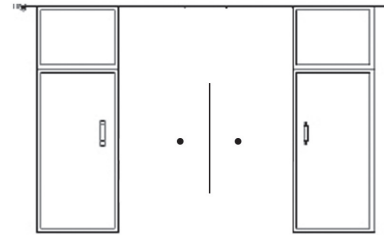

Figure 1
**1** Find the center of the wall where you are installing the hood. Make sure there is sufficient bracing to hold the weight of the hood. Mark your center line and measure out from the center to find your two mounting points. Make sure your mounting points are level when you mark them. It is recommended to install the hood directly into wood supports. **(Figure 1)**
**2** Mark the mounting points and install the two mounting screws provided leaving the heads out  $\frac{1}{4}$ " to mount the hood. **(Figure 1)**